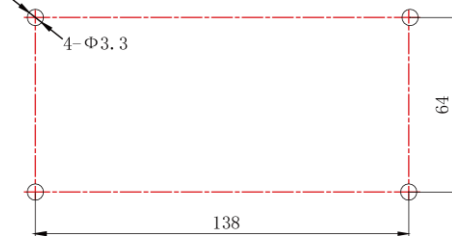

Fig. 1.9 Installation Holes of the Electric Box Rear Cover
- 2) In case that the centralized controller is installed inside the control cabinet, dig 4 installation holes on the surface of the control cabinet according to fig.1.9.
- (4) In step (1), pull out the power core and communication cord, and then lead them separately from the wire orifice of the electric box rear cover. Never lead the cords through a same orifice.
- (5) In step (2), locate the electric box rear cover to the installation holes of the wall with screw $\text{ST4.2} \times 16 \text{ FA}$.
- (6) In step (6), pull out the wire connecting the touch screen and controller's rear cover. Put the touch screen on a safe place.
- (7) In step (7), connect the communication cords to G1, G2 terminals, and connect the neutral wire and live wire to the N, L terminal; connect the ground